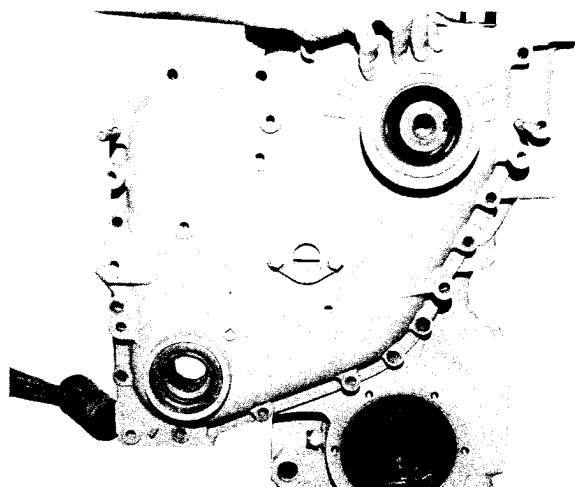

Fig. 0-30, (N10039). Removing gear case cover
If gear case cover is equipped with outboard bearing at camshaft, remove from cover. Place two (2) guide studs 4 inches [101.6 mm] long, one on each side of cover to support cover during removal. Fig. 0-30.